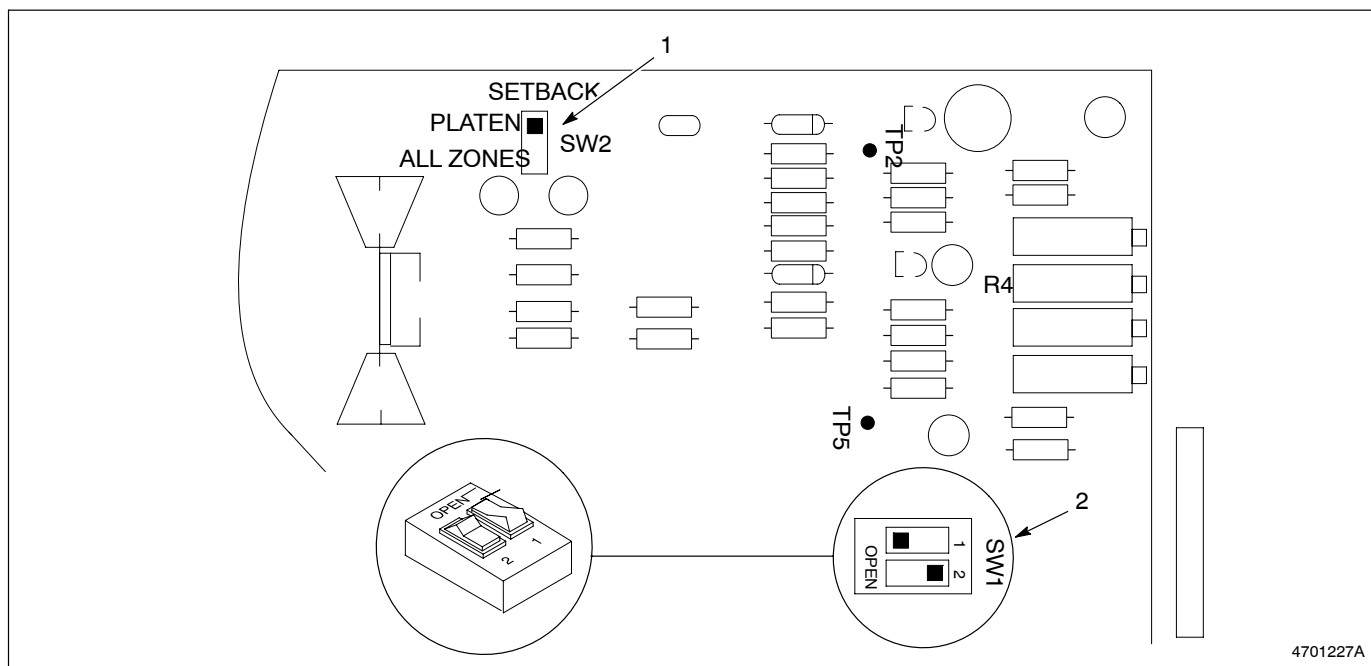

Fig. 4-3 LCU Circuit Board Detail
5. See Figure 4-3. Locate trim potentiometer R4 and test points TP2 and TP5.